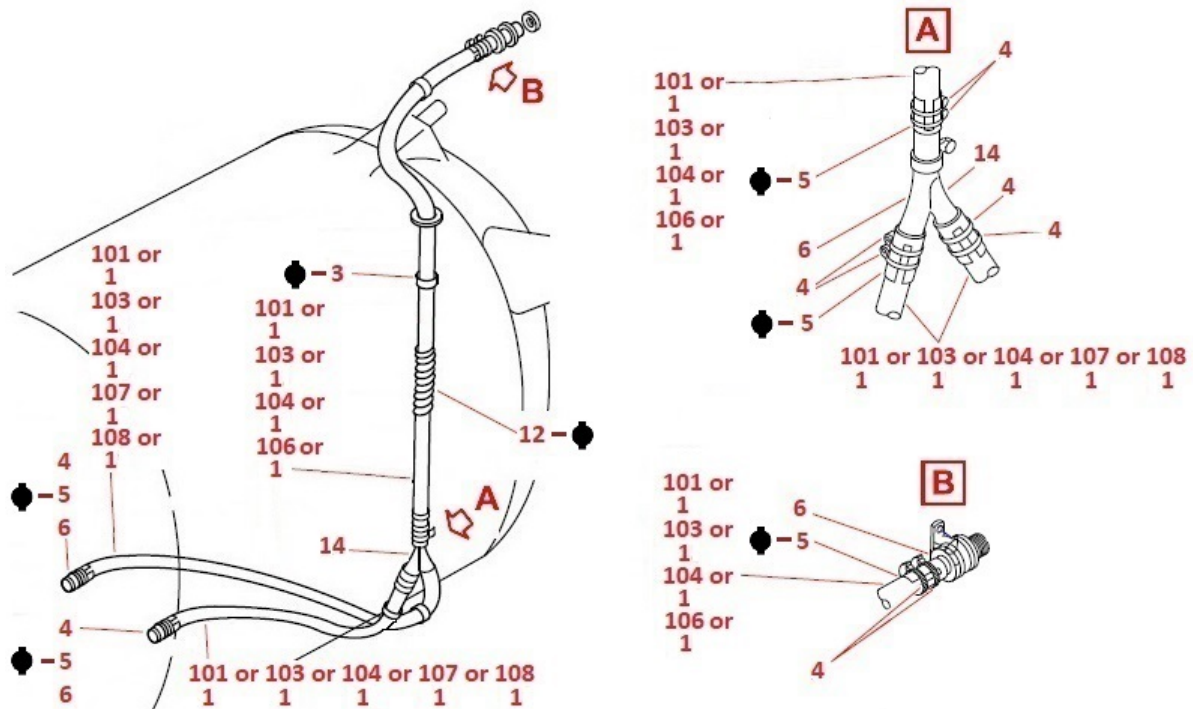

Figure 7
- 4.3.2. For helicopters that have three or four fuel supply hoses, refer to \(Figure 7\) or \(Figure 8\).